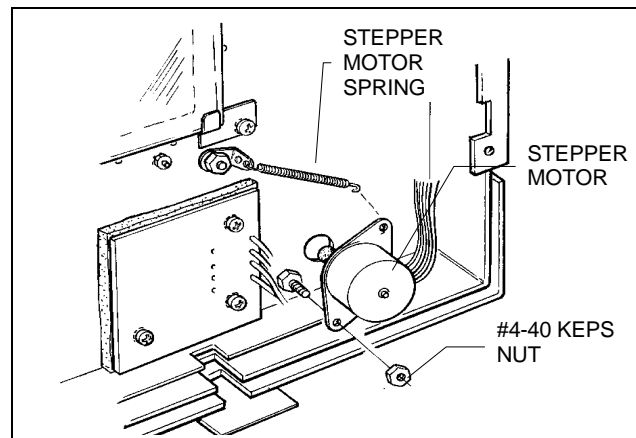

Figure 6-10. Removing the stepper motor
5. Disconnect the spring from the stepper motor. (Figure 6-10)